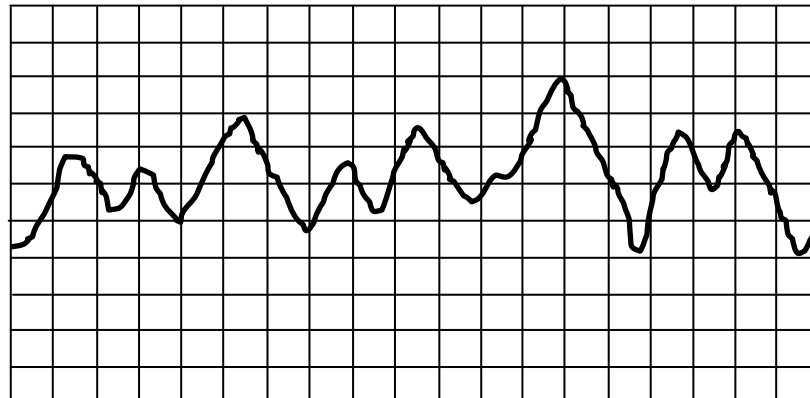

Figure Q3[b]
- [b] Figure Q3[b] shows a trace that represents the roughness of a workpiece surface. The horizontal scale is 0.2 mm per grid spacing while the vertical scale is 0.001 mm per grid spacing. Determine the R_a , R_t and R_z roughness parameters for the surface.**